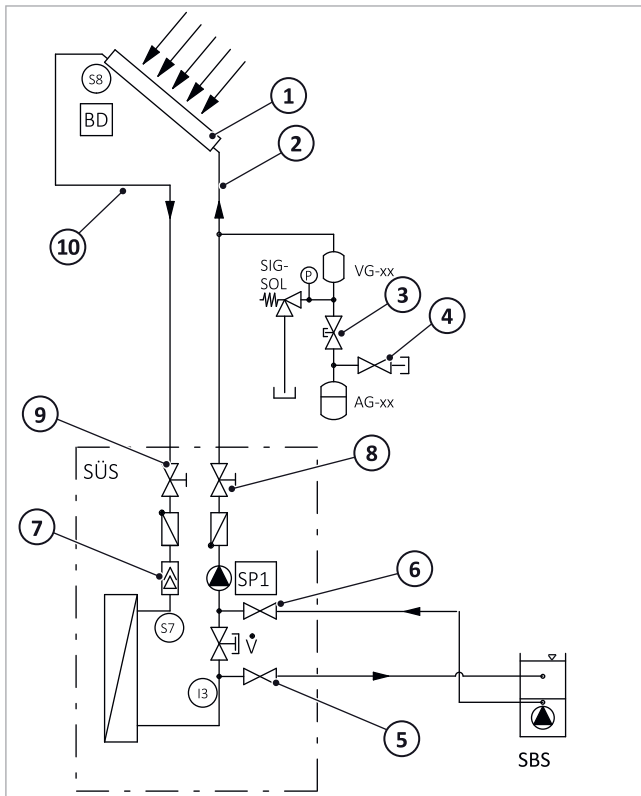

Fig. 105: Solar heat transfer station: Flushing the pump line
- Once the solar circuit has been refilled, gas will be emitted during operation, which collects in the station deaerator → fig. 105, page 52 (7). The gas emissions decrease as the operation time increases. It is therefore important to bleed the deaerator and check the system pressure every day in the first few days after start-up and then at regular intervals, depending on the amount of air discharged.